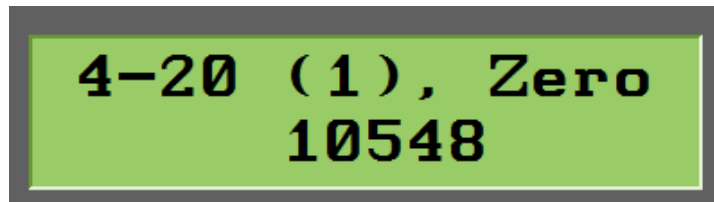

Figure 5-5: Second Level of Hidden Diagnostics Menu
5. Press the right arrow to access the second level of the hidden Diagnostics menu. The text in Figure 5-5 will be displayed.